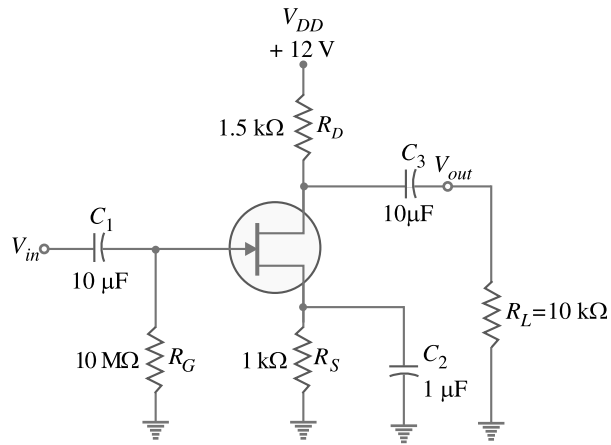

Fig. 17.77
10. If a 50 mV r.m.s. input signal is applied to the amplifier in Fig. 17.77, what is the peak-to-peak output voltage? Given that  $g_m = 5000 \mu\text{S}$ . [920 mV]